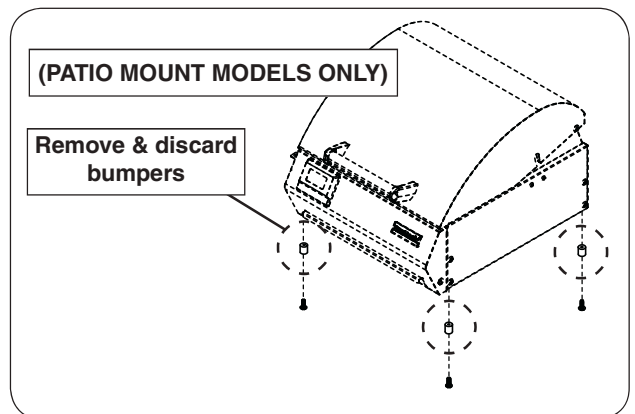

Fig. 9-2 Remove bumpers (if applicable)
1. Using a Phillips screwdriver, remove the four screws and bumpers on the bottom of the grill. Discard the bumpers. See Fig. 9-2.